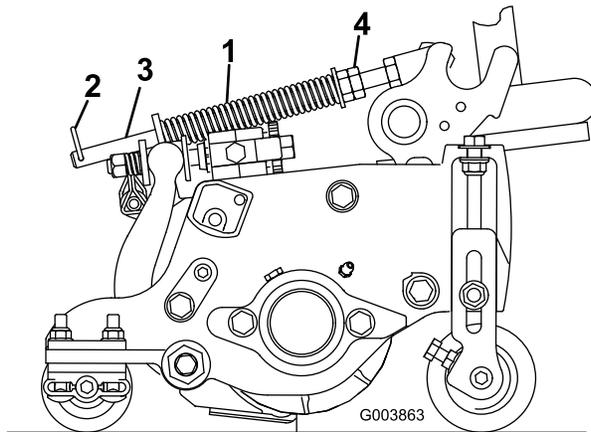

Figure 17
3 The turf compensation spring (Figure 17) transfers weight from the front to the rear roller. (This helps to reduce a wave pattern in the turf, also known as marcelling or bobbing.)
1. Make sure the hairpin cotter is installed in the rear hole in the spring rod (Figure 17).
2. Tighten the hex nuts on the front end of the spring rod until the compressed length of the spring is 12.7 cm (5 inches) for 5 inch cutting units or 15.9 cm (6.25 inches) for 7 inch cutting units (Figure 17).